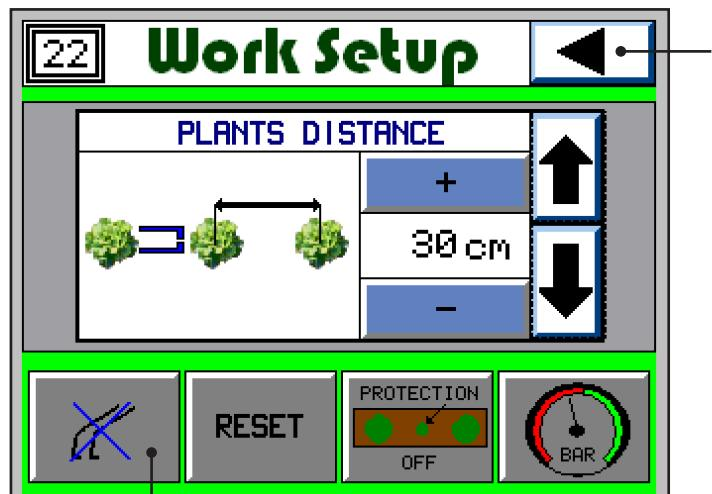

Fig. 4
- 8) In the page "WORK SETUP", disconnect the hoes by keeping pressed the button **(G - Fig. 4)**, until it becomes red.